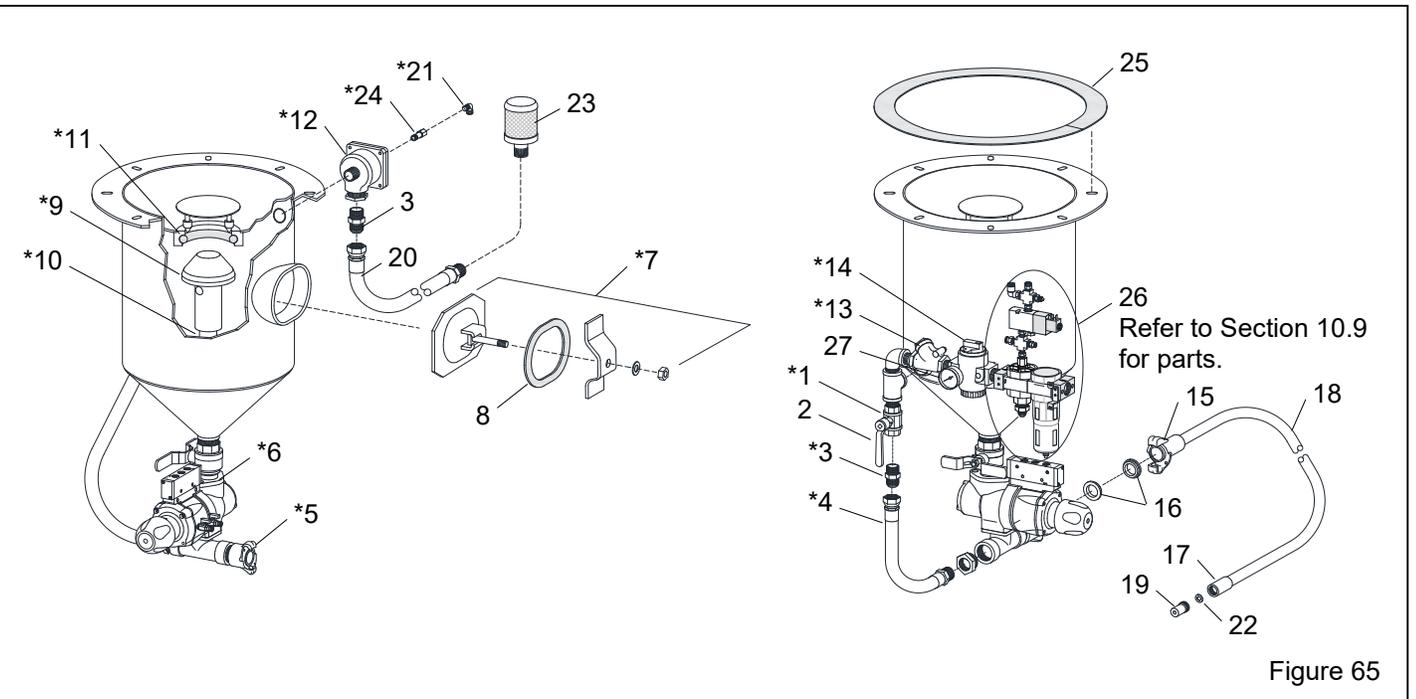

Figure 65
**10.8 Blast Machine – Figure 65**